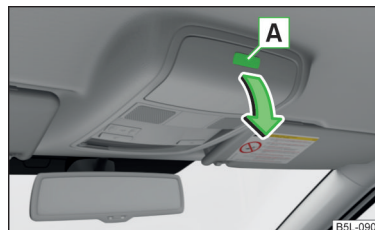

Fig. 87
- To open, press the -- button. The compartment folds in the direction of the arrow » Fig. 87.